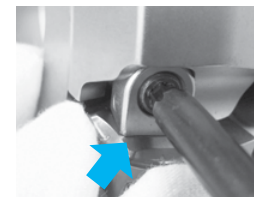

Fig.3
3. Install the insert (Fig 3), and tighten the wedge screw temporarily. Temporarily tighten the screw with a 40 to 45 degree rotation after the wedge contacts the insert.